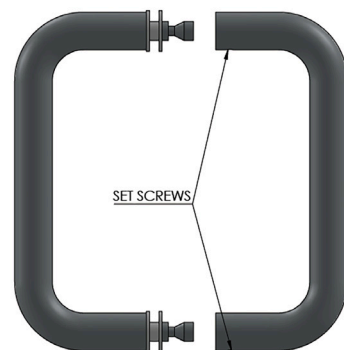

FIGURE 15
To attach the Back-to-Back C-Pull (D), first loosen set screws with an allen wrench and take the pull apart. (See Figure 15)